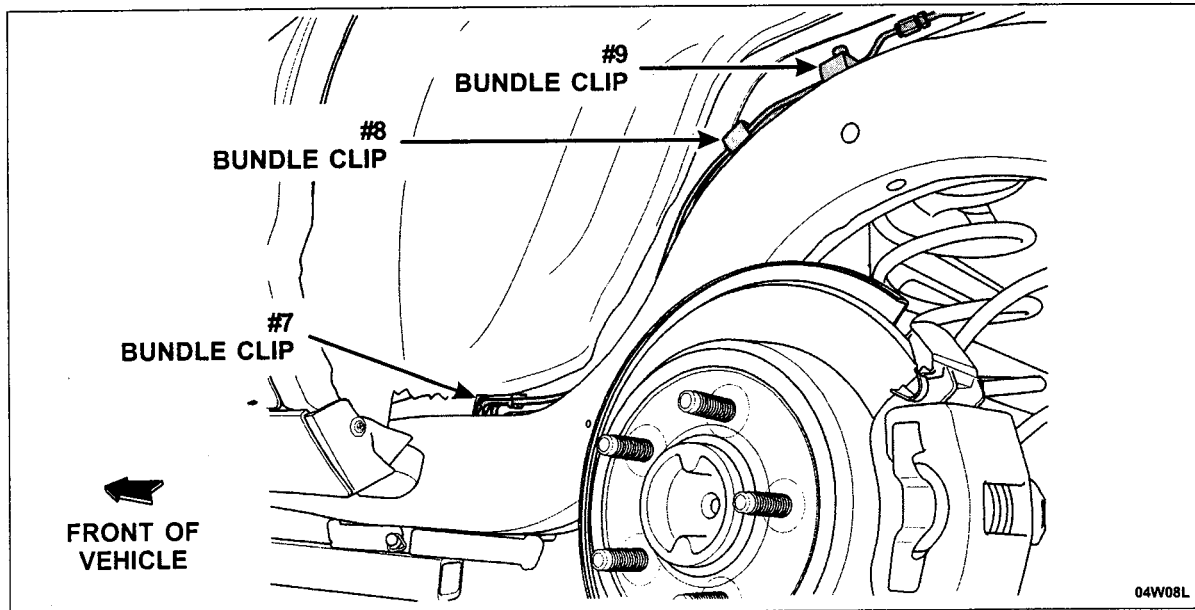

FIGURE 12
8. Mark the location of the #7, #8 and #9 bundle clips on the frame rail, then remove the bolts for the #7 and #9 bundle clips (located on the frame around the left rear wheel area – accessible once the wheel is removed). The #8 clip has no bolt. See Figure 12.